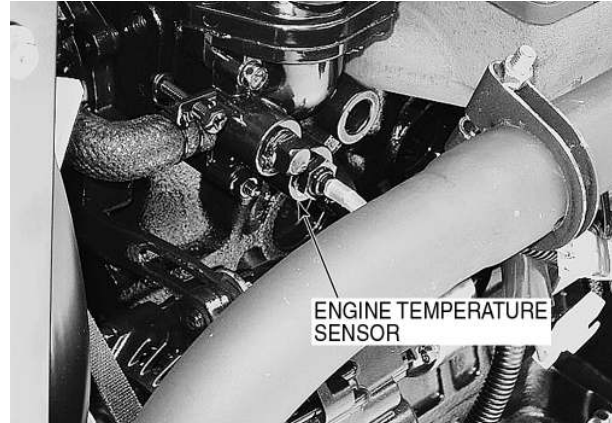

Figure 62 - Engine Temperature sensor
**Thermostat** : The thermostat is located in the coolant outlet connection in the front of the cylinder head, Figure 62.